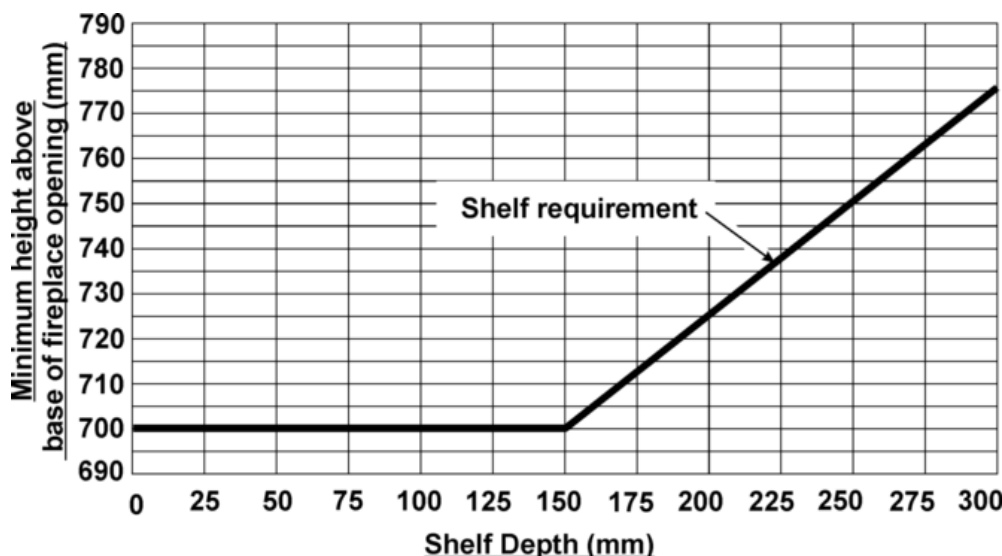

Figure 1. Combustible shelf clearances
- *For a shelf deeper than 150mm: 700mm + 12.5mm for every 25mm depth over 150mm (See Figure 1).*